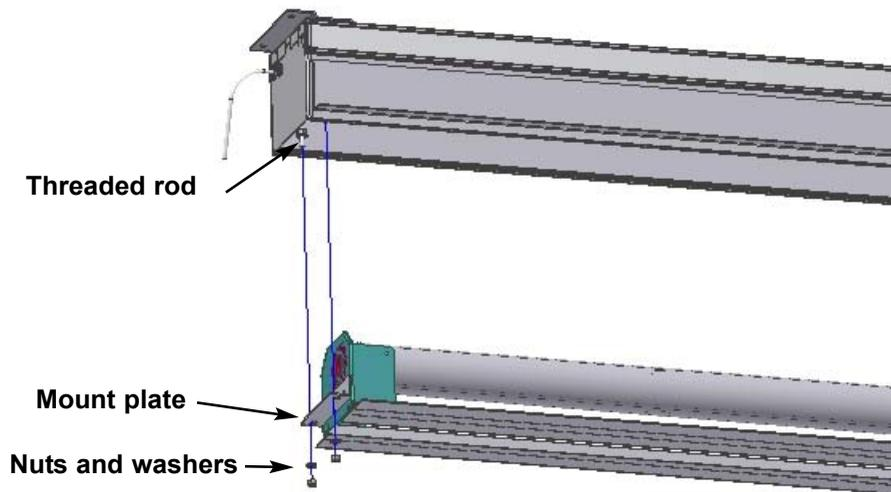

Figure 8: Installing the screen assembly
4. Position the screen assembly mount plates over the internal threaded rods. Refer to Figure 8.